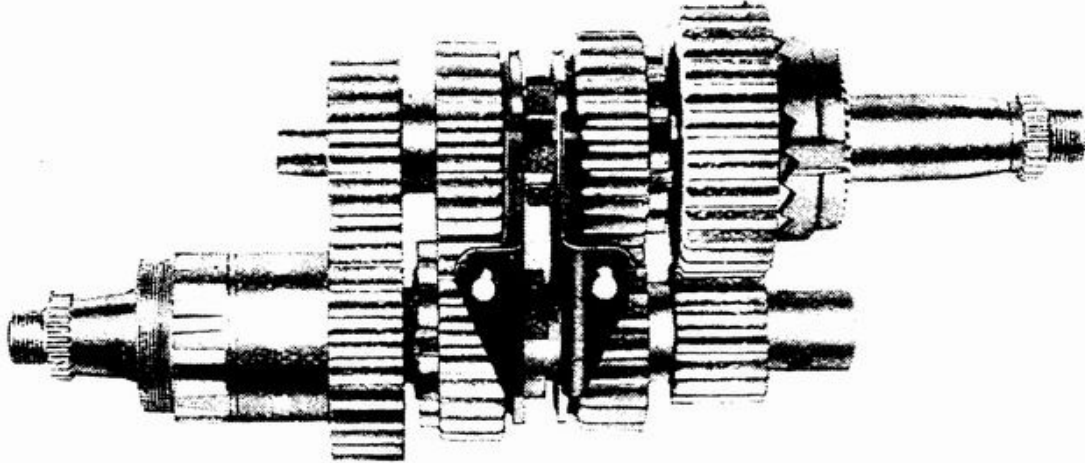

FIG. 23. THE GEARS REMOVED FROM THE BCX.
It will be seen that the slot for the striking plate is formed at one side of the teeth (Fig. 23). When re-assembling take care that the narrow grooves on each pair of gear wheels are adjacent to each other and that the striking plates are assembled so that the pegs which form a bearing for the striking fork lie towards the inspection cover but remote from the striking fork.
In introducing the cam plate (D) see that it engages with the spring loaded plunger (F) which locates the gears. It will be seen that for top and bottom gears, engagement is effected by means of pegs on the sliding pinions which engage with the holes on the 1st and 4th speed wheels (Fig. 23).